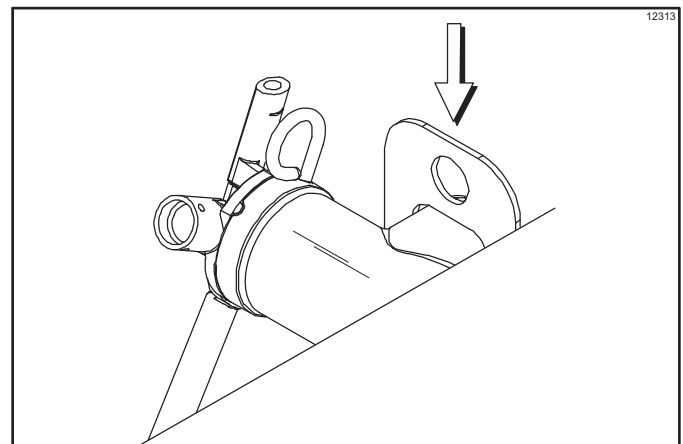

Figure 6-35
4. Install the pump assembly at the rear of the mix hopper. To position the pump on the drive hub, align the drive hole in the piston with the drive crank of the driveshaft. Secure the pump in place by slipping the pump clip over the collar of the pump, making sure the clip fits into the grooves in the collar. (See Figure 6-35.)